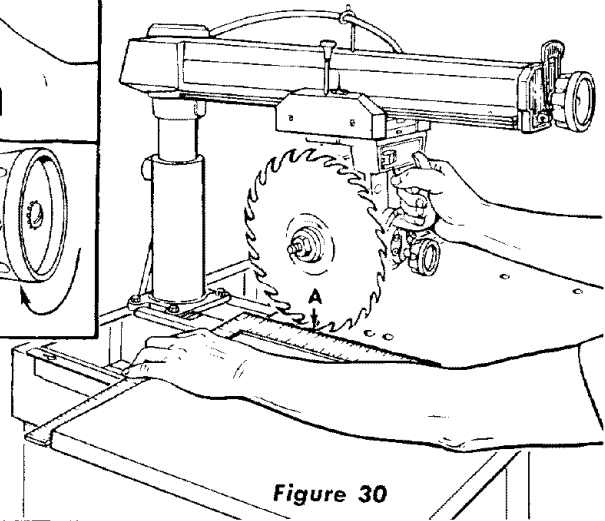
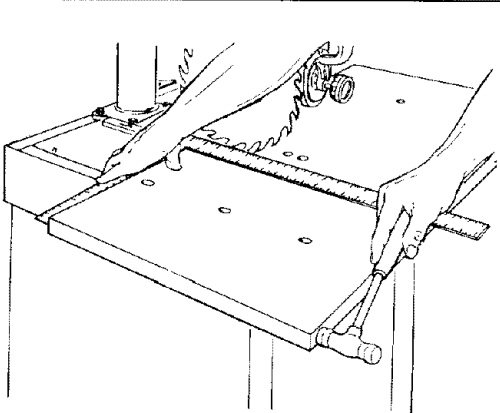

Figure 30
Figure 31
- g. Place a framing square on the table with the short leg against rear edge of table as shown in figure 30 and the long leg of the square just contacting a tooth of the saw blade. (Position "A", figure 30.) Mark this tooth with a soft pencil.
- (1) If the saw tooth ("A", figure 30) moves into the square when moving the blade from the rear to the front of table, tap the left-hand front edge of table (figure 31) with the mallet.
- (2) If saw tooth ("A", figure 30) moves away from the square when moving the blade from the rear toward the front of table, tap the right-hand front edge of table with the mallet.